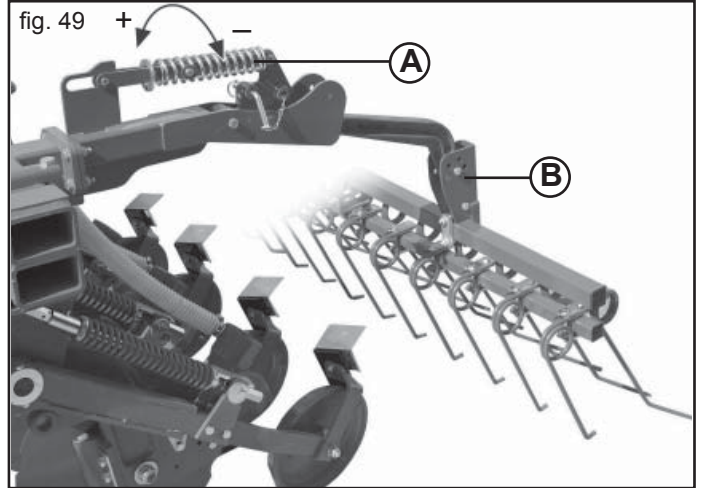

fig. 49
The working pressure of the spring teeth of the seed-covering harrow may be varied by rotating the spring on the upper parallel arm (A, Fig. 49).
When the arm pins (B) on the five holes are shifted, the clearance angle of the spring teeth varies (Fig. 49).